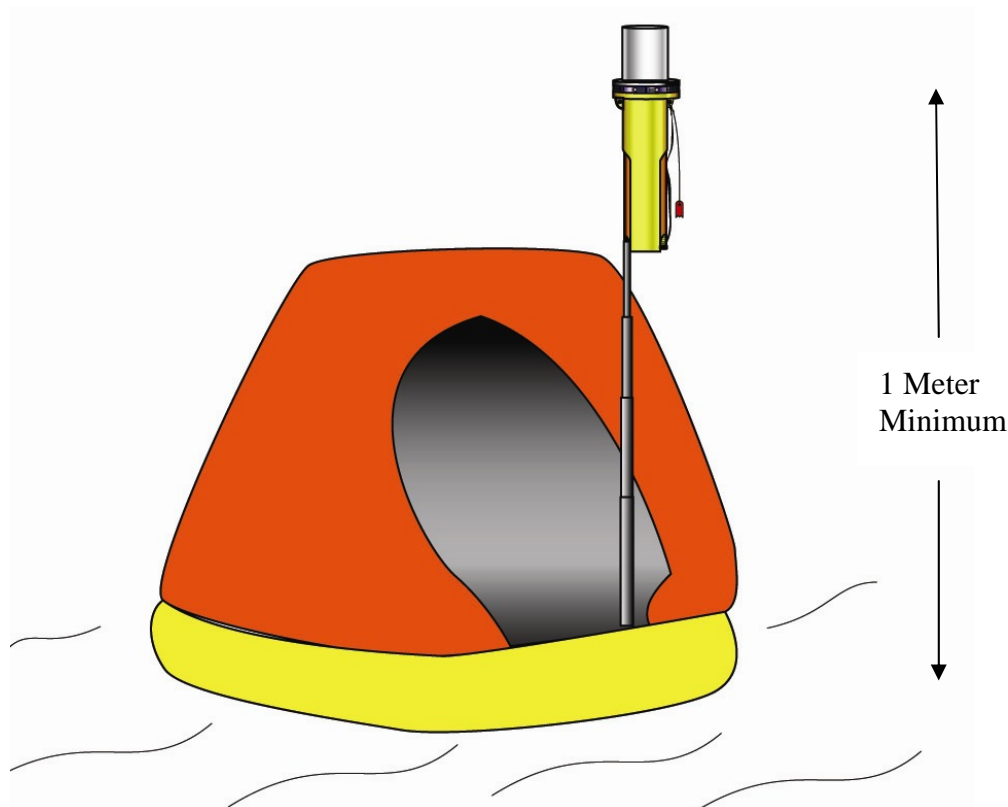

Figure 5
1. The PathFinderTM₃ is supplied with a telescopic pole to raise the SART one meter above sea level (see figure 5).